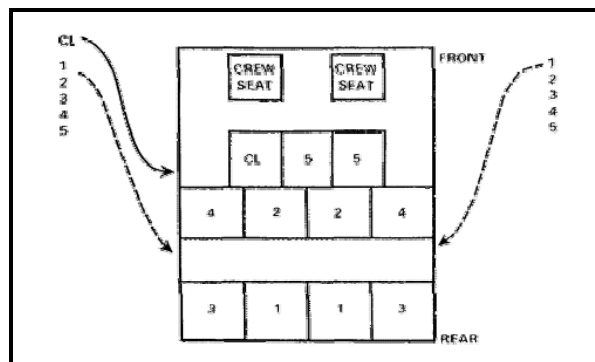

Figure 8-8. UH-60 loading diagram (split chalk).
- The far side and near side groups move to the aircraft in file, with the chalk leader always leading the near side group (see Figure 8-8).